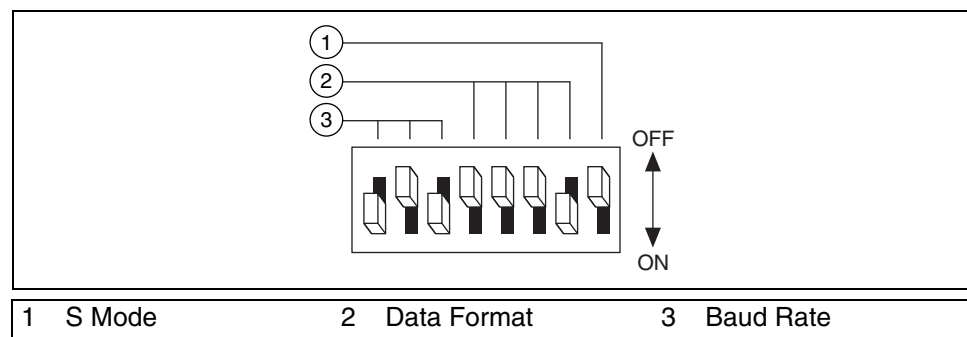

Figure 9-17. Serial Configuration Settings for the NI Instrument Simulator
- Set the left bank of switches on the side of the box to match Figure 9-17.